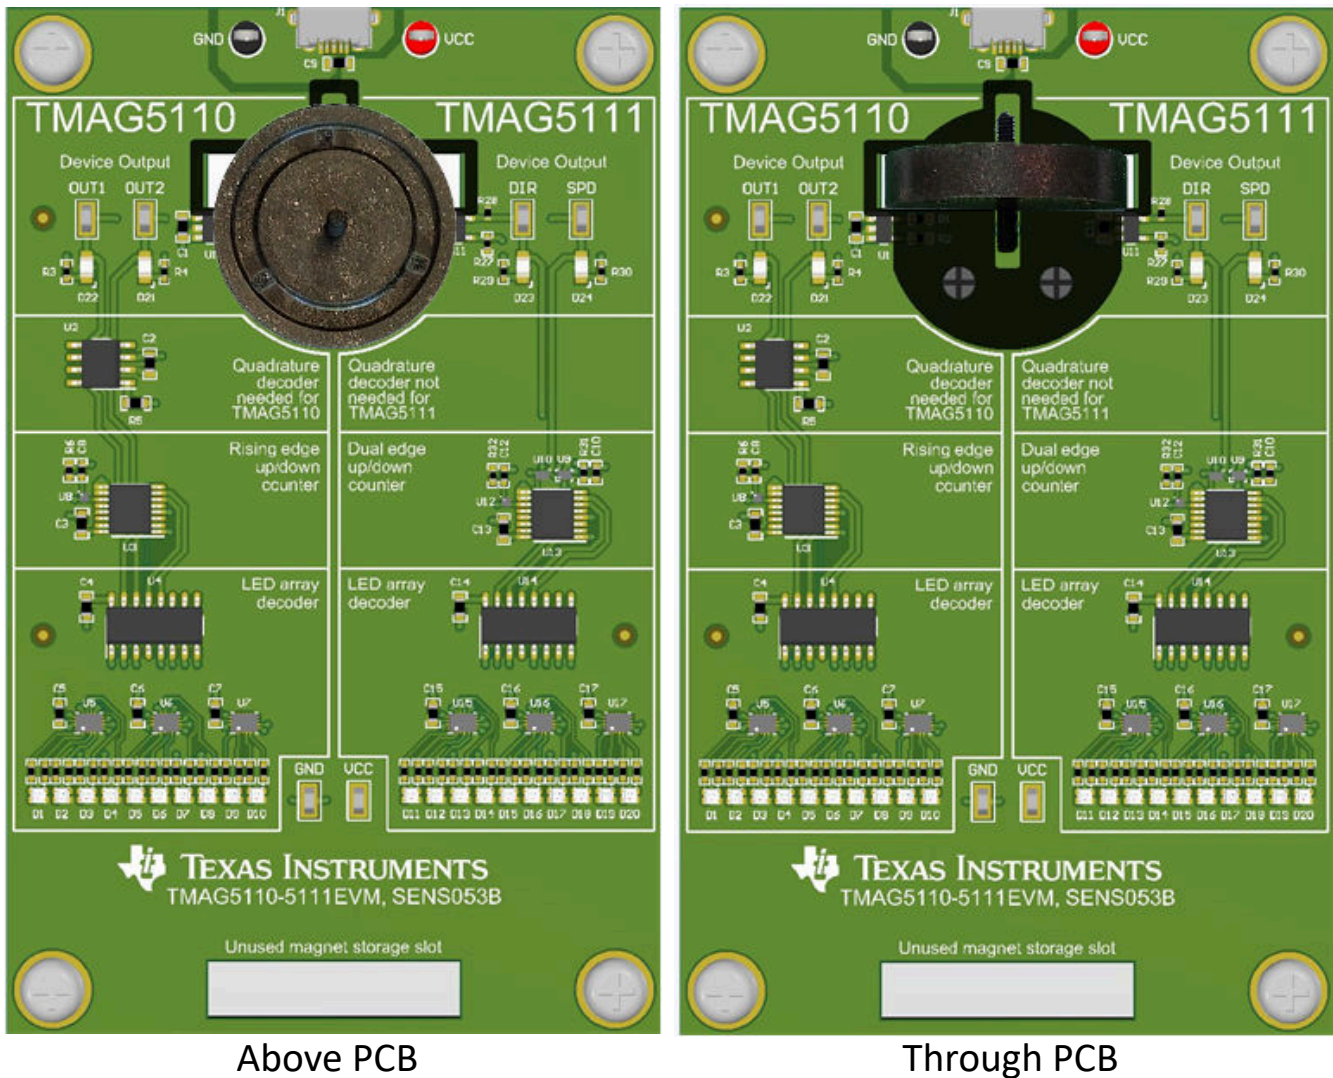

Figure 3-3. EVM Magnet Placement Options
2. Place either the 10 pole or the 20 pole ring magnet in one of the two positions indicated in Figure 3-3.
The EVM features two convenient magnet placement orientation options for rotary encoding, shown in Figure 3-3. The magnets can easily be rotated while in these positions. The two LED arrays at the bottom (D1–D10 and D11–D20) will each have one LED lit up either green or blue that will move either right or left with the rotation of the magnet. The output LEDs near the sensors (D21–D24) show the state of the individual output pins of each device.